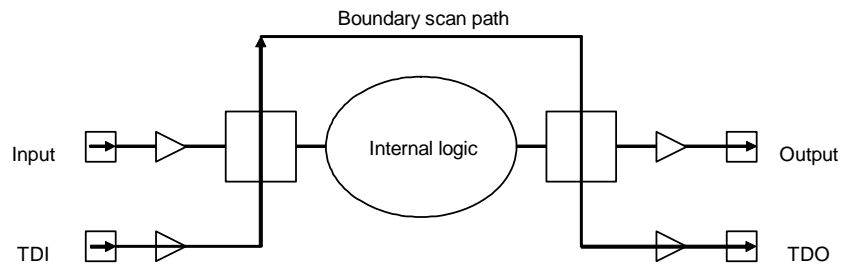

Fig. 21.10 Flow of Test Data While PRELOAD Is Selected
- The PRELOAD instruction is used to initialize the boundary scan register before selecting other instructions. For example, the boundary scan register is initialized using PRELOAD before selecting the EXTEST instruction, as previously explained. PRELOAD shifts data into the boundary scan register without affecting the normal operation of the system logic. Fig. 21.10 shows the flow of data while the PRELOAD instruction is selected.